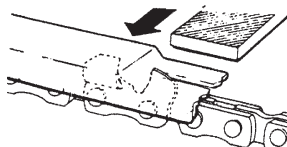

Fig. 43
- 3) Place depth gauge tool on cutter. If depth gauge projects, file it level with the top of the tool. Always file from the inside of the chain toward an outside cutter. (Fig. 43)